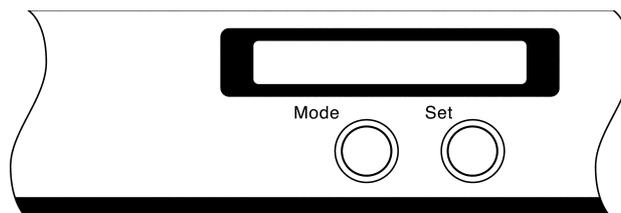

Fig. 1.2 Control Panel
| (3) Key layout     | See Fig. 1.2   |